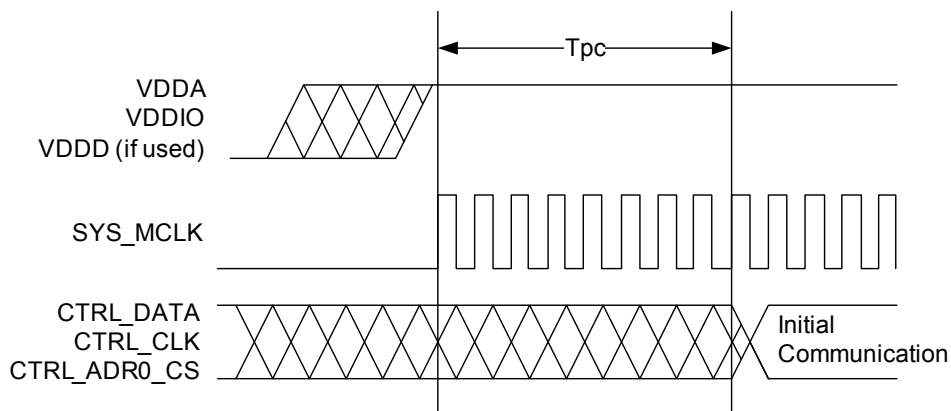

Figure 4. Power Up Timing
| Time from all supplies powered up and SYS_MCLK present to initial communication. See <a href="#">Figure 4</a> . | $t_{PC}$       | 1.0 (2) | –                                              | –   | $\mu$ s |